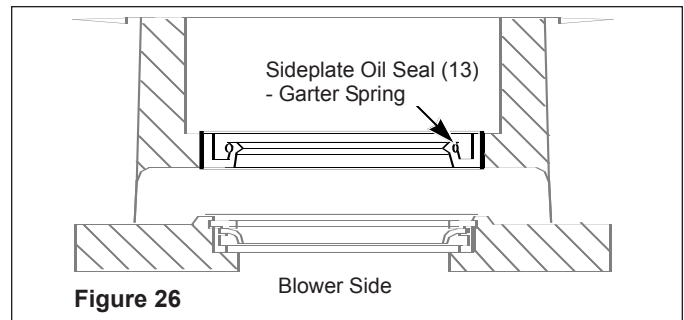
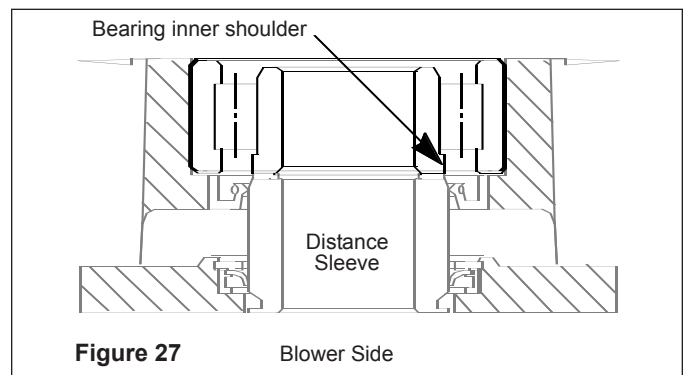

Figure 26
Figure 27
- Lightly grease a new sideplate oil seal (13). Using a seal punch, insert into bearing recess with the lip up, facing the bearing. Ensure the oil seal is flush with bottom of bearing recess. See Figure 26.
- From the rotor side, push in distance sleeve (7), chamfered end first, through both seals. Be sure distance seal is flush to the rotor face. If a new seal is fitted, it may be necessary to slightly stretch the seal with a smooth round piece of steel, to allow the sleeve to enter without damaging the seal or pushing it backwards.
- Repack bearing and bearing side of oil seal with Aeroshel™ #5 grease. Push bearing into sideplate with the writing on the outer race on top, and the inner shoulder of bearing facing the rotor. See Figure 27.